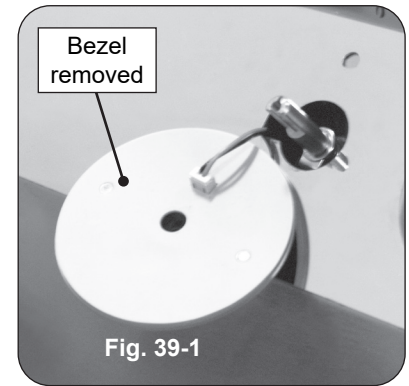

Fig. 39-1
4. Slowly lift the lighted bezels to clear the valve stems, and let rest as shown in Fig. 39-1.